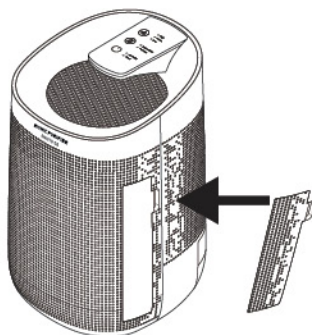

fig. 5
5. Place the filter cover back into the device. (fig. 5).